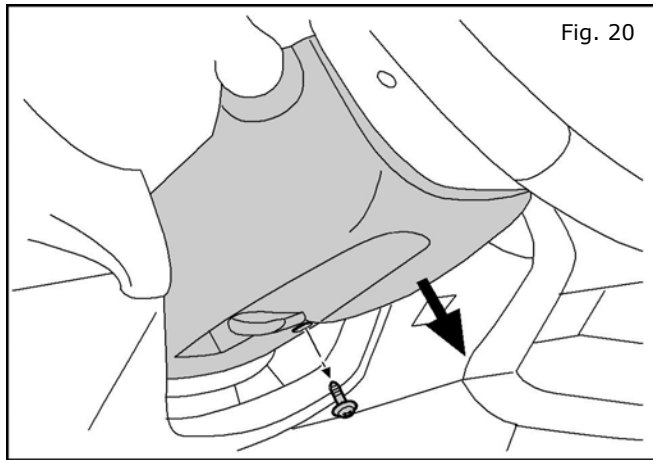

Fig. 20
27. **Reinstall** the lower steering finisher (see Fig. 20).